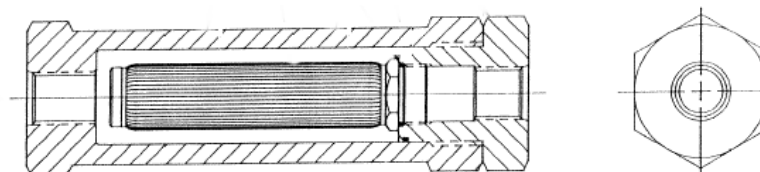

Figure 6-19. Models U956 and 43 26 G-20 Filters
- b. Models U956 and 4326G Filter Elements. Installed in the high- and low-pressure air piping, these filter elements (see Figure 6-19) remove particles of 15 microns or larger. Refer to sections 6-7.1.1 through 6-7.1.3 for removal, disassembly and repair, and installation of the filter element. See Table 6-15 below.